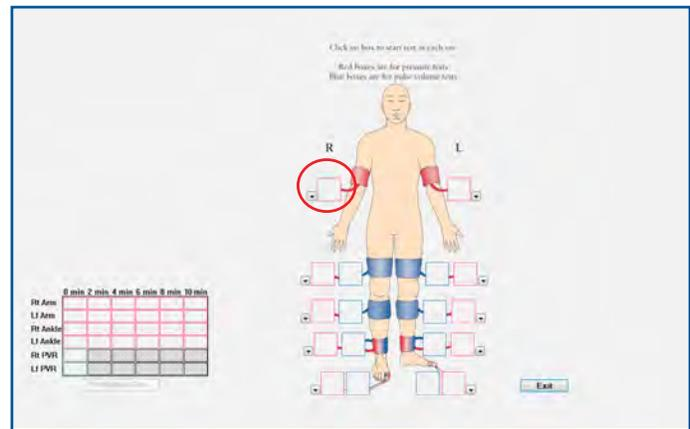

FIGURE 1.12 - Test Summary Screen - Right Brachial Box
11. Apply cuffs to the patient at all indicated anatomical locations (Figure 1.12). The patient should be lying supine for test (except when contraindicated) and be instructed to remain as still as possible.
12. The test starts from the Test Summary screen. Click inside the red Right Brachial box to begin testing (Figure 1.12). Values will appear in the testing location boxes after the test is completed.